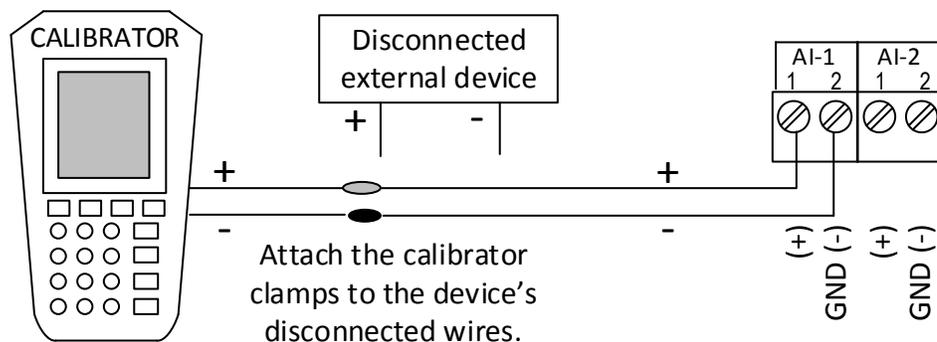

Figure 97: AI calibration equipment
4. Connect the calibrator to the wire ends that were removed from the external device. Observe the polarity and connect to the correct wire: positive probe to the signal wire and the negative probe to the negative or ground wire. Figure 97 shows the setup of equipment to calibrate an AI with voltage or current.